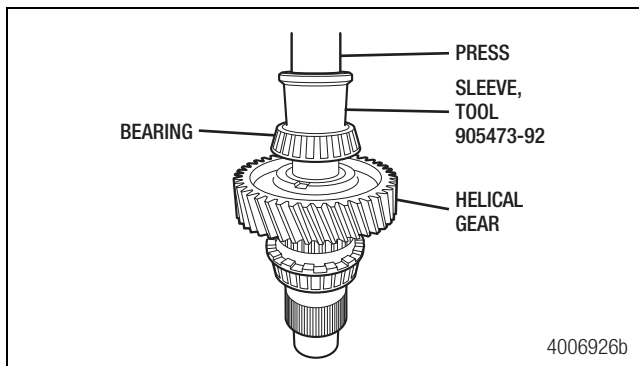

Figure 7.4
8. Use tool number 905473-92 to install the bearing onto the top of the output shaft with the small tapered end UP. Use a press and sleeve to push the bearing DOWN onto the output shaft until it is fully seated. Refer to page 109 for the tool drawing. Press down only on the inner race of the bearing during installation. Use a 0.002" shim or feeler gauge to verify the bearing is correctly seated. Figure 7.4.